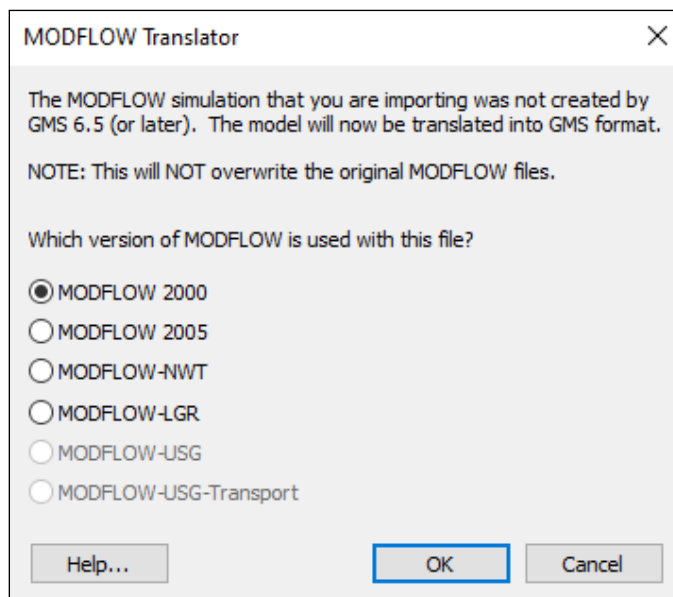

Figure 3 MODFLOW Translator dialog
4. Click **Open** to exit the *Open* dialog and bring up the *MODFLOW Translator* dialog (Figure 3).